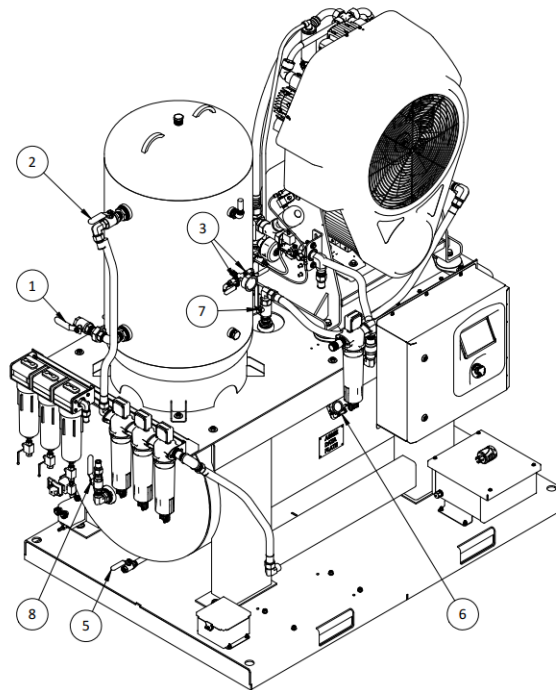

Figure 3: Inlet and outlet valves and locations
Next, switch the high-pressure tank inlet ball valve to the open position. See valve top of lower tank item 7, Figure 3: Inlet and outlet valves and locations.